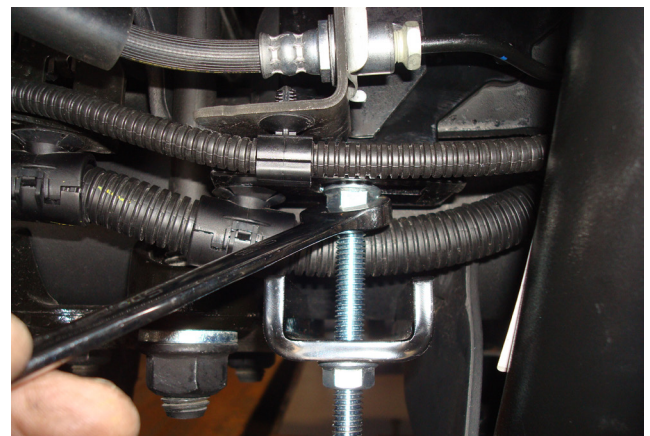

Fig. 18
5. Securely tighten the ABS bracket nut on both sides (Fig. 18).